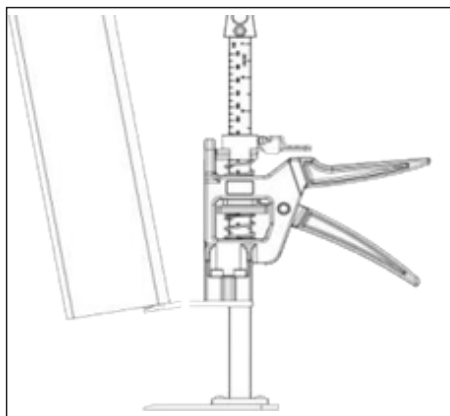

Figure 1
- a. Do not use the power lifter when it is only partially in contact with heavy object (Figure 1).